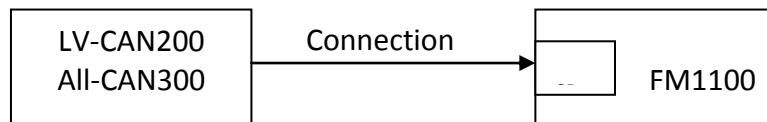
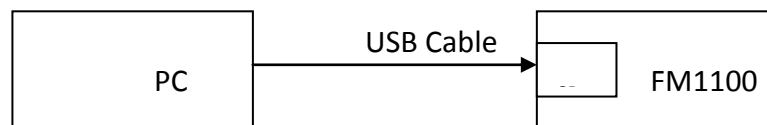

Figure 55 Connect adapter LV-CAN100 to FM1100
Figure 56 Connect FM1100 to PC and configure
**SCAN function** – is in use when FM1100 is connected to CAN adapter (Figure 55), then wait 10s (Note, that car engine must be started), disconnect adapter from FM1100, and connect PC USB cable to FM1100 Device (Figure 56). It is very important not to disconnect FM1100 from power source during this operation, because if FM1100 is reconnected all received CAN bus data will be lost. FM1100 remembers received data from LV-CAN200 or ALL-CAN300 and at the end of the procedure when “SCAN” button is pressed, user will see all CAN data which is sent by adapter. Enable CAN data which needs send to server and save configuration pressing “Save” button.
1. In car, connect LV-CAN200 or ALL-CAN300 to CAN bus and to the FM1100 device (Figure 55), wait 10 seconds. Note, that car engine must be started.
2. Disconnect LV-CAN200 or ALL-CAN300 from FM1100, and connect PC USB cable to FM1100 Device (Figure 56). It is very important not to disconnect FM1100 from power source, because then all CAN data will be lost.